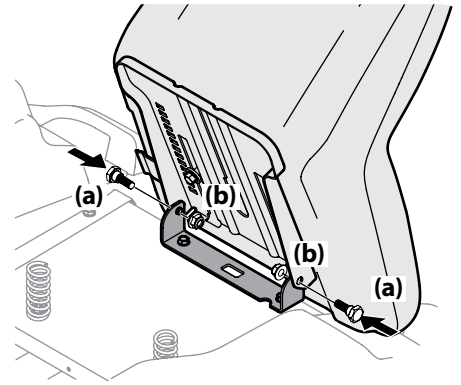

Figure 2-11
3. Rotate the seat into position and secure the seat into place with the previously removed shoulder screws (a) and flange lock nuts (b). Be careful not to crimp or damage the wire harness while installing the seat. See Figure 2-11.